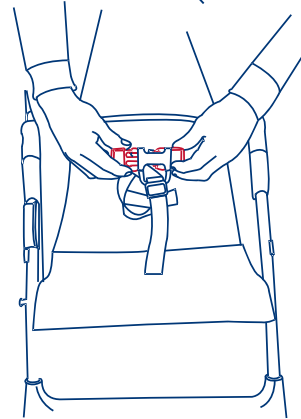

Fig. 7
- * Carefully place the child in the stroller seat and bring the seat belt around the child's waist. Place the crotch strap between the child's legs. Insert the male end of each seat belt into the female buckle until snapped into place. Tighten the seat belt to be snug around the child's waist. Please see figure 7.